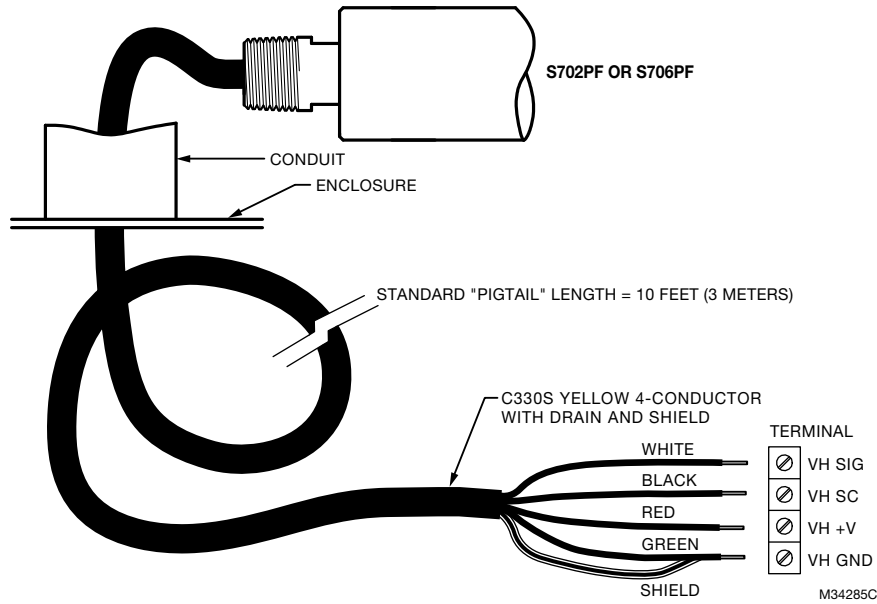
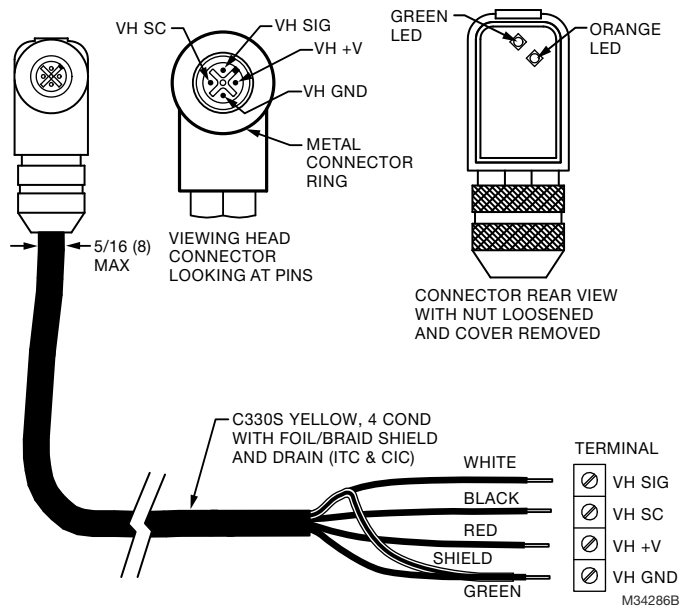
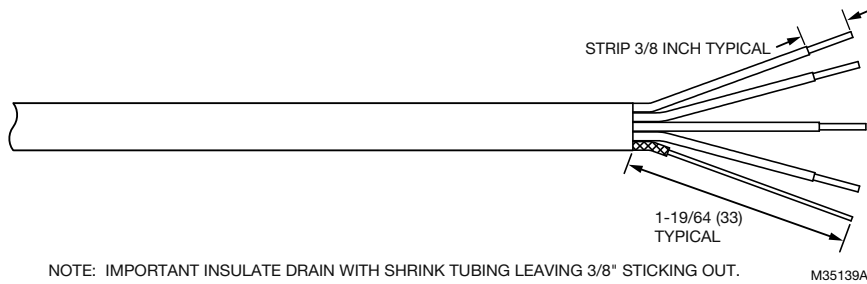

Fig. 3. Model 700 Viewing Head Cable With 1/2 in. NPT Fitting.
Fig. 4. Model 700/800 Viewing Head Cable Connections.
Fig. 5. C330S Signal Processor End Cable Preparation.
Connectors and cables are shown in Fig. 3, Fig. 4, and Fig. 5. Fig. 3 shows the viewing head cable with the 1/2 in. NPT pipe fitting and pigtail for use in a conduit. The PF model comes with 10 feet of Honeywell C330S cable. This cable is recommended for all new installations. It has ITC and CIC ratings for hazardous location. Figs. 4 and 5 describe the C330S cable used with the right angle field-wireable connector. Refer to “Accessories” on page 11 for part numbers.
1. Referring to Fig. 5, strip cable 2 inches back to expose the braided shield.
4. Strip other wires as shown in Fig. 5.
1. Prepare C330S wire at plug end similarly to Fig. 5.
- a. Wires and LEDs are in proper locations per Fig. 4.